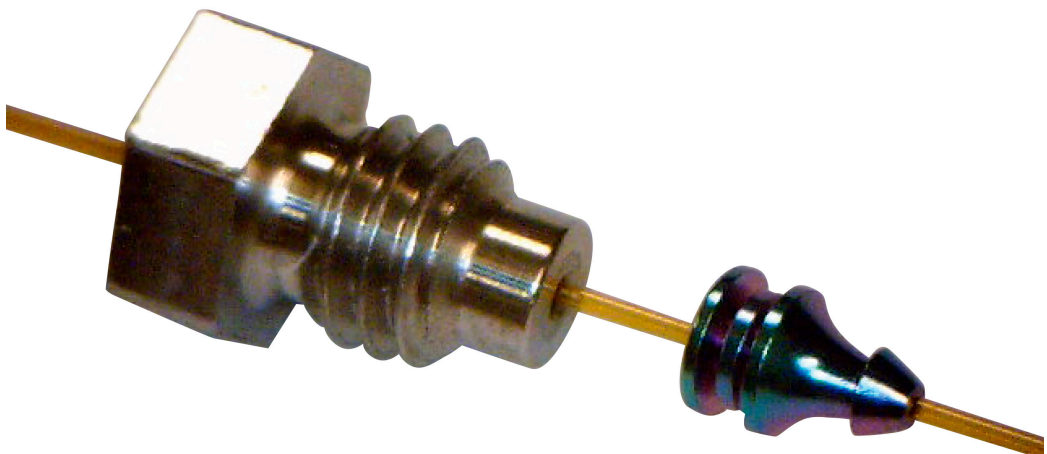

Figure 5 Ferrule swaged to column and internal nut
- 4 Using the 1/4-inch open-ended wrench, turn the internal nut an additional 15 to 20 degrees clockwise to assure the ferrule is properly swaged onto the column (see Figure 5).